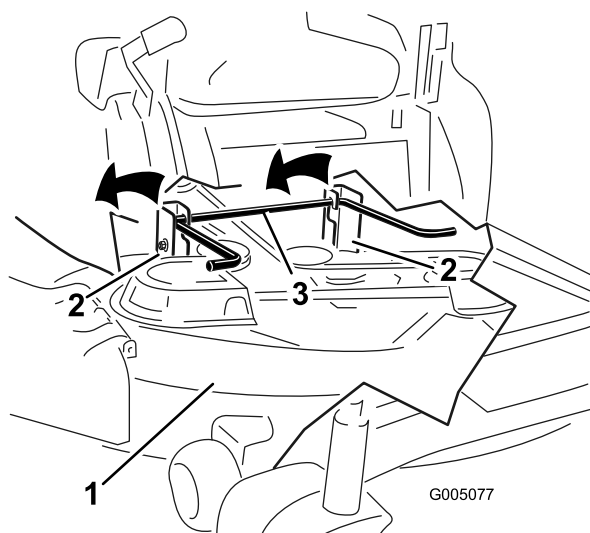

**Figure 59**
4. Remove the hairpin cotter from the front support rod, and remove the rod from the deck bracket (Figure 59).
6. Attach the front support rod to the mower deck with the clevis pin and hairpin cotter (Figure 59).